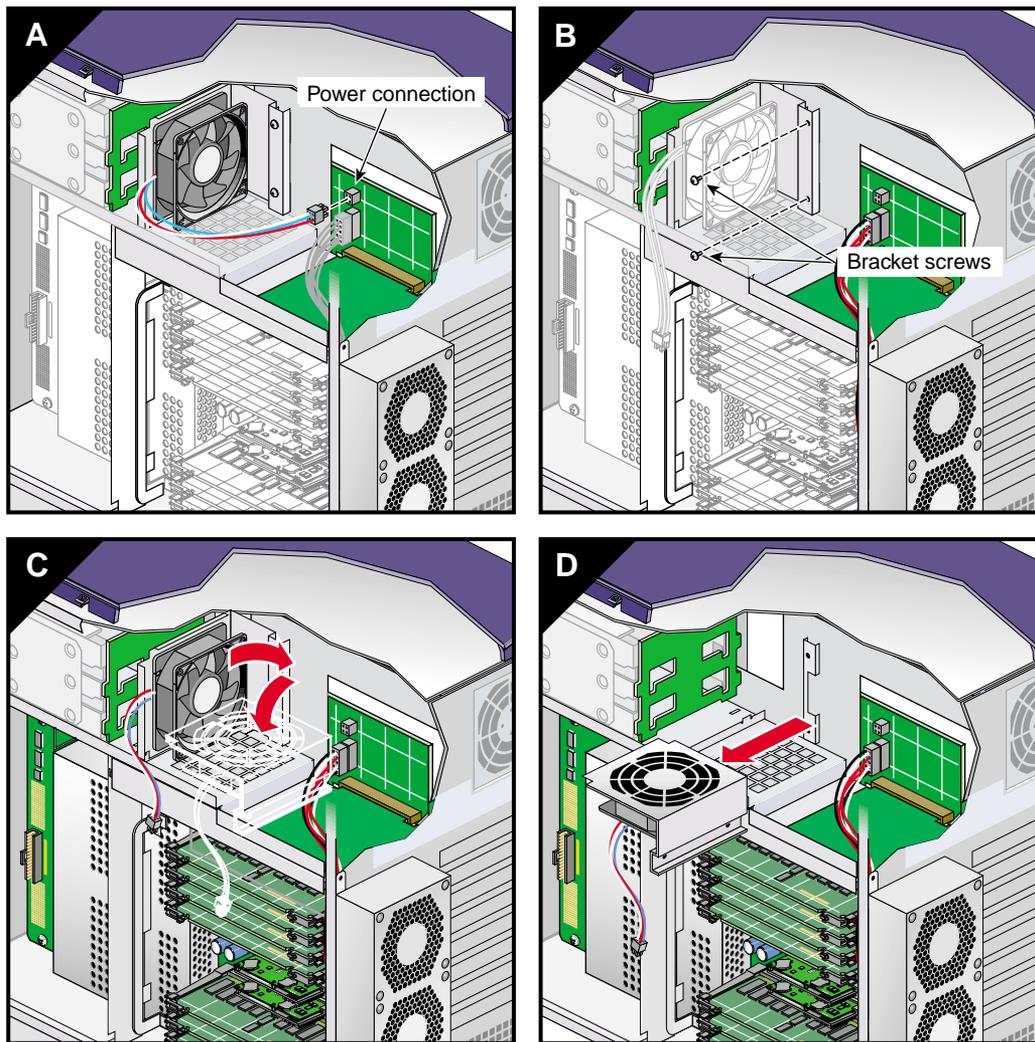

Figure 3-34 Removing the Hard Disk Drive Fan
1. Disconnect the disk drive fan power cable from the interface board. Then remove the screws that secure the disk drive fan to the enclosure (see Figure 3-34).
2. Carefully remove the fan from the enclosure (see Figure 3-34).